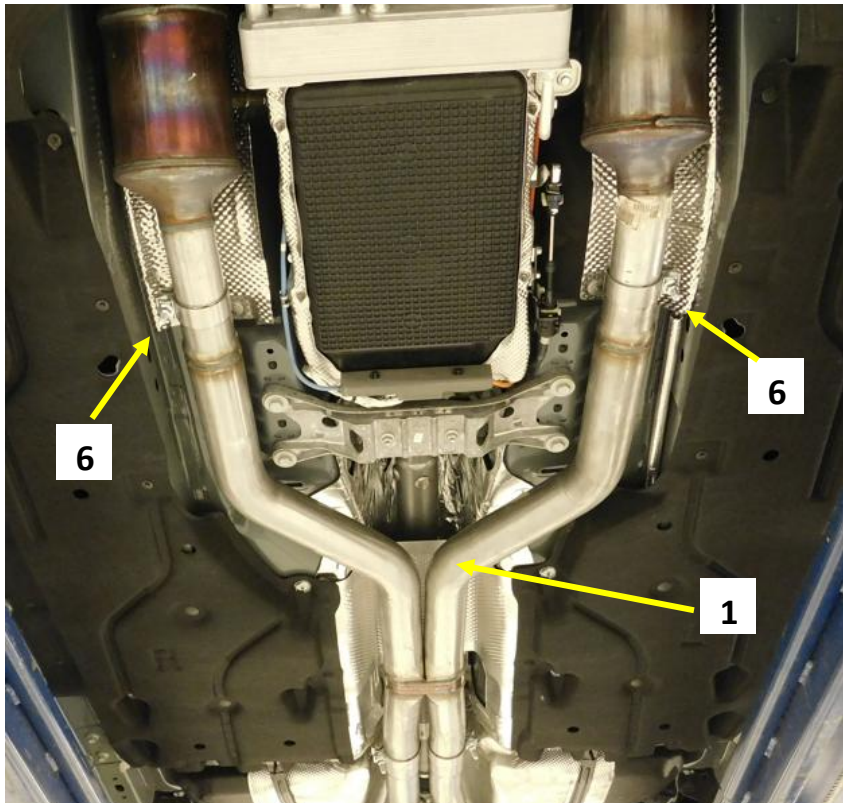

Figure.8
7. Support the scavenger pipe level and parallel with the bottom of the car and tighten the band clamps **(6)** to allow for adjustment but hold the part in place. Continue to support the Scavenger pipe until the system is completely installed. **Fig.8**